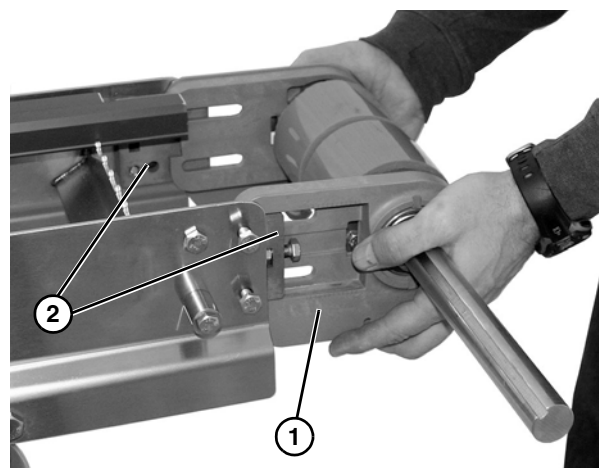

Figure 38
4. Slide the drive spindle assembly (**Figure 38, item 1**) off the drive tail blocks (**Figure 38, item 2**).